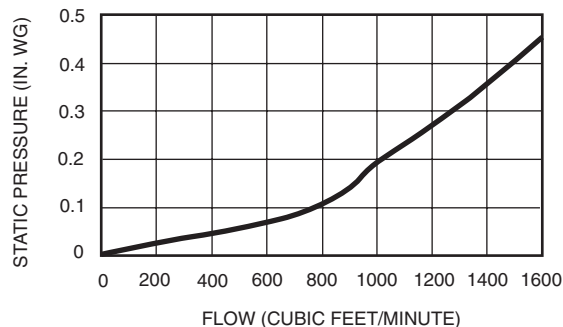

Fig. 39 — Barometric Relief Capacity
6. See Fig. 39 for barometric relief damper characteristics.